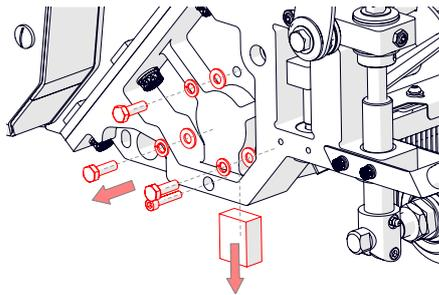

Fig. 16M - Remove bolts from RH cylinder bearing, and central shaft
14. Insert a piece of wood or similar through the cylinder and wedge it against the front roller to stop it rotating. Remove the 3 x M8 bolts supporting the right hand cylinder bearing [13 mm spanner], and M6 cap head bolt supporting the side plate [5 mm hex key] (Fig. 16M). Support the cylinder and lower to the floor.